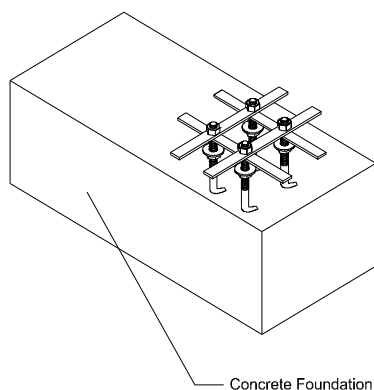

FIG. 17: ANCHOR BOLTS TEMPLATE
- Step 11. Install four flat washers on each anchor bolt above the jacking nuts. (See Fig. 17)